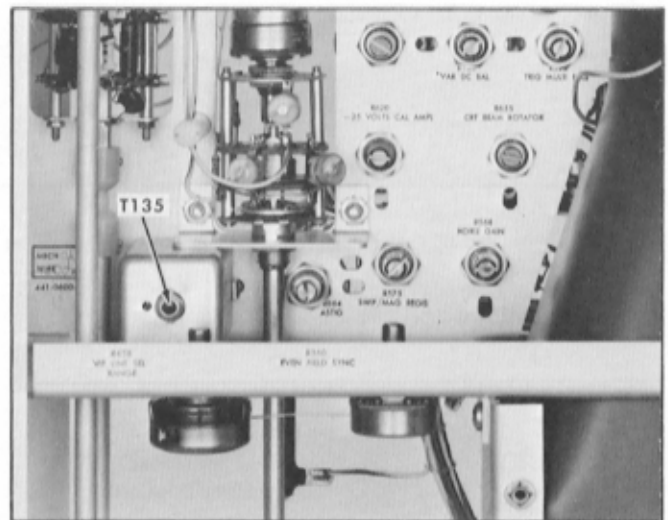

Fig. 6-36. Location of transformer T135.
30. Adjust Vertical-Amplifier Chroma Frequency Response (T135) ❶
g. Adjust the bottom powdered-iron slug in T135 (see Fig. 6-36) to obtain 100 IEE units of vertical deflection.